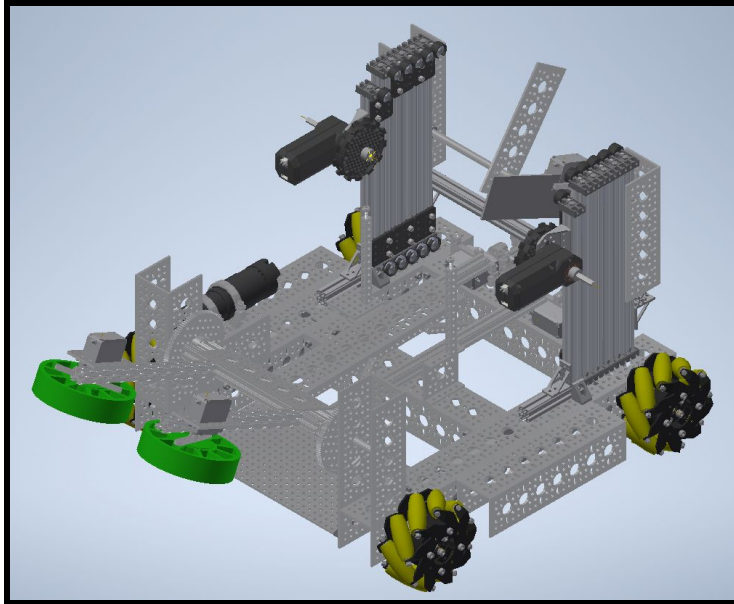

Figure 1: 5773 Robot CAD File
- Go through the CAD files and show the students the immense detail that is put into the 3D modeling and the purpose of it **(as seen in Figure 1 below)**
- Example shown in **Figure 1:**